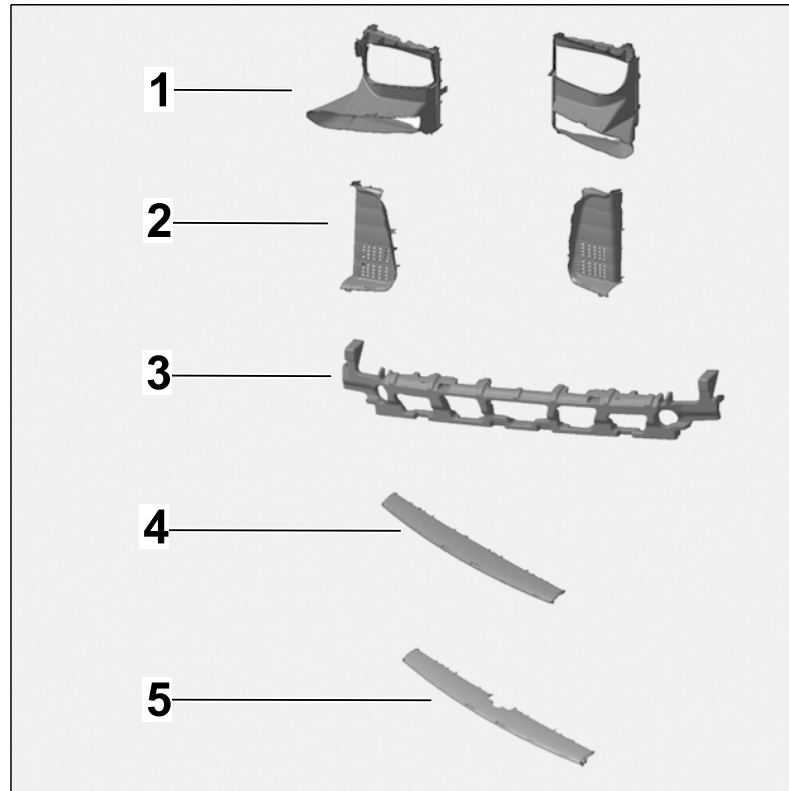

Figure 6
- 3.1.2 Replace air guide for radiator with the supplied radiator guides ⇒ *Workshop Manual 'Removing and installing front air guide'*. Also replace sound absorber on bumper with the supplied new sound absorber ⇒ *Figure 6 -3-* and side air guides ⇒ *Figure 6 -2-*.